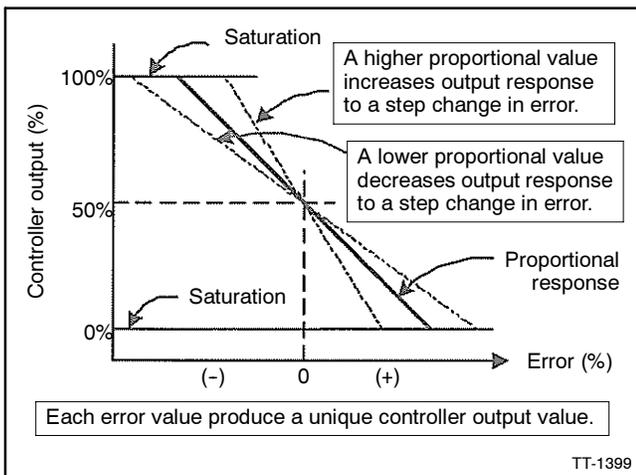

Figure 10 Proportional Value
- A speed change creates a speed error (the difference between the target speed and the actual speed.) The Proportional gain controls the size of the governor output response to a step change in the speed error. See Figure 10.